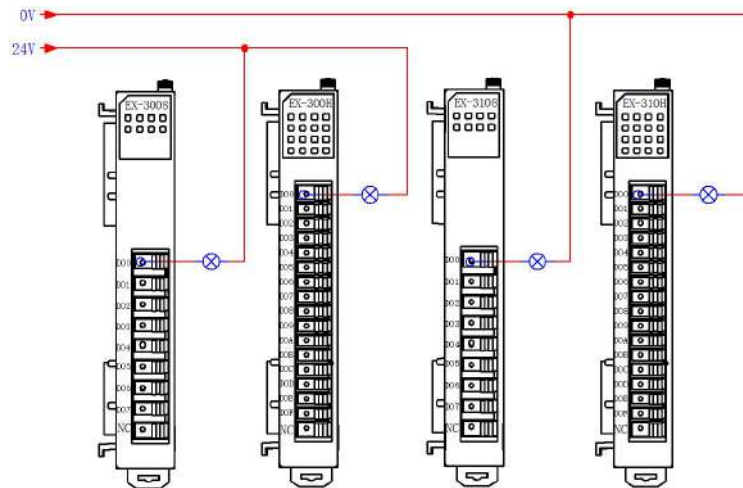

Figure 4-9 EX-3008 /EX-300H/EX-3108/EX-310H module wiring diagram
- Figure 4-9 shows the wiring diagram of the EX-3008/EX-300H/EX-3108/EX-310H module.